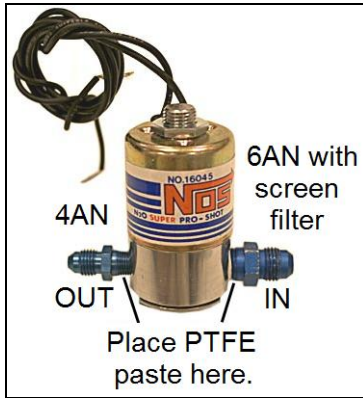

Figure 7
1. Apply a small amount of PTFE thread sealant to the NPT threads of the **nitrous filter** (blue with screen) and insert into the **IN** side of the nitrous solenoid. In a bench vise, tighten at least 1-1/2 turns after finger tight. (**Figure 7**)